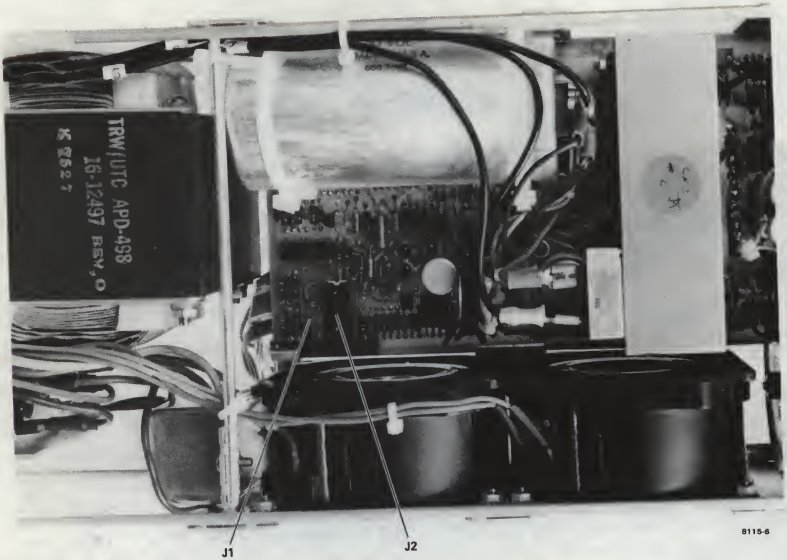
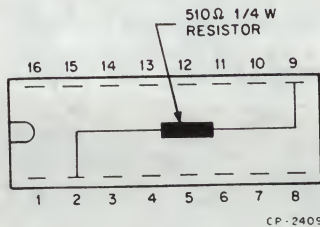
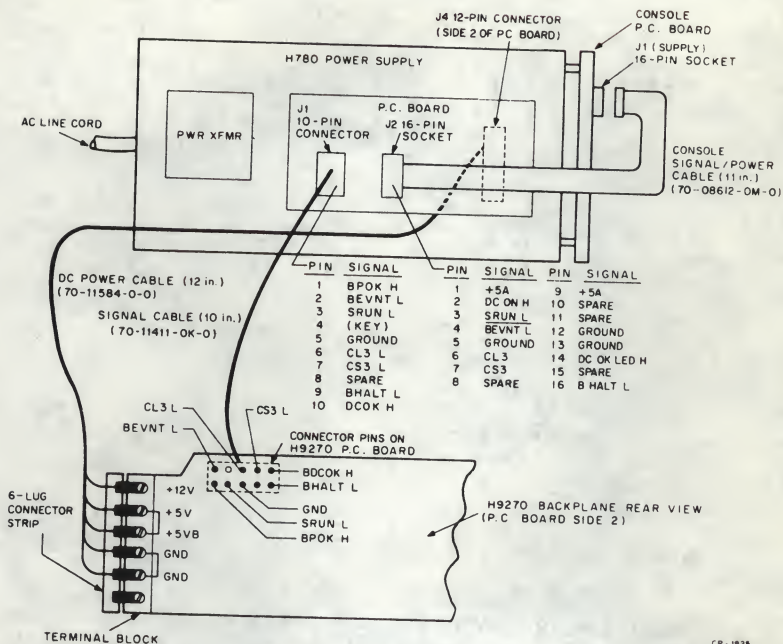

Figure 15 Locations of J1 and J2 on Power Supply Board
Figure 16 H780-C and -D Enable Plug
Figure 19 H780 to H9270 Backplane Connections
**H780-C and H780-D Stand-Alone Operation** – If an H780-C or -D power supply is to be used as a stand-alone supply, a  $510\ \Omega$ ,  $1/4\ \text{W}$  resistor must be installed between J2-2 and J2-9 on the power supply printed circuit board (Figure 15 ). The  $510\ \Omega$  resistor provides a pull-up level to an internal power supply gate, thus enabling the  $+5\ \text{V}$  and  $+12\ \text{V}$  outputs. This resistor is not required for the H780-K or -L slave supplies, nor is the resistor required for the H780-H and -J supplies. The resistor can be installed by bending its leads and inserting them into socket J2, or by soldering the resistor across pins 2 and 9 of a 16-pin DIP, IC-type male connector. Pinning for the J2 enable plug is shown in Figure 16 .
**Connecting an H780 to an H9270 Backplane** – The H780 power supply is connected to the H9270 by means of two cables. These cables are supplied with the H780. One of these cables is a 25.4 cm (10 in) logic signal cable (DIGITAL part number 70-11411-OK-0), which connects from J1 on the power supply board (Figure 15 ) to connector pins on the H9270 printed circuit board (Figure 19 ). Either end of this cable can be connected to the power supply or the backplane. The other cable is a 30.5 cm (12 in) dc output cable (part number 70-11584-0-0). This cable is terminated at one end with a keyed, 12-pin connector which mates with J4 on side 2 of the H780 power supply board. Figure 20 shows the location of J4; Figure 21 shows J4 pinning. The remaining end of the dc output cable is terminated with a 6-lug connector strip which is connected to the H9270 backplane terminal block.
as shown in Figure 19. When connecting the 6-lug connector strip to the H9270 backplane, make sure that the spade lug connectors are facing up. Figure 22 shows the dc output cable connected to J4 of the H780. The H780 logic signal and dc output cables are routed toward the rear of the power supply and exit from the supply chassis next to the H9270 backplane terminal block.
H780-H, -J, -K, and -L power supplies have a console that is attached to the H780 and connected to the supply by means of a console signal/power cable (part number 70-08612-0M-0). This cable is factory-installed from J2 on the power supply board (Figure 15) to J1 on the console PC board (Figures 19 and 23).
Figure 23 shows the console printed circuit boards and the locations of the J1 (SUPPLY), J2 (REMOTE), and J3 connectors. J1 is always connected to J2 of the power supply printed circuit board (Figure 19 ) by the console signal/power cable (part number 70-08612-0M-0) which is factory-installed. Pinning for J2 (REMOTE) on the console printed circuit board is shown in Figure 24. Pinning for J2 on the power supply printed circuit board is indicated in Figure 19.
2. Using a DVM, measure the +12 V output at the system backplane terminal block (Figure 19).